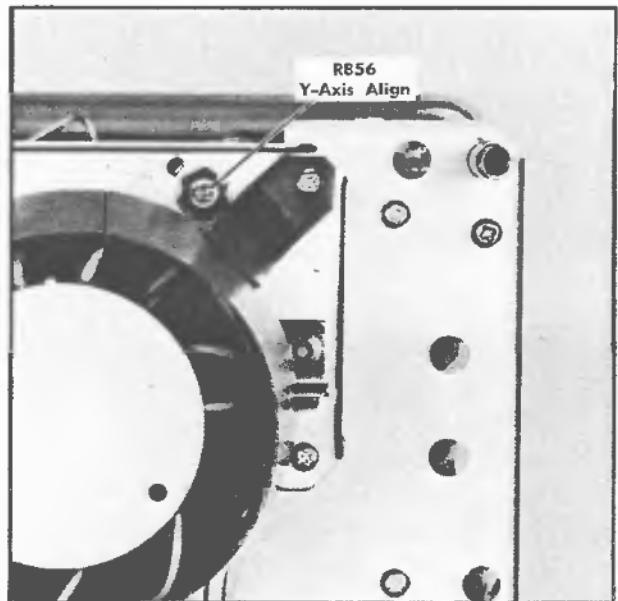

Fig. 6-11. Location of Y Axis adjustment (rear panel).
- g. ADJUST—Y Axis Align adjustment, R856 (see Fig. 6-11), to align the markers with the centerline.